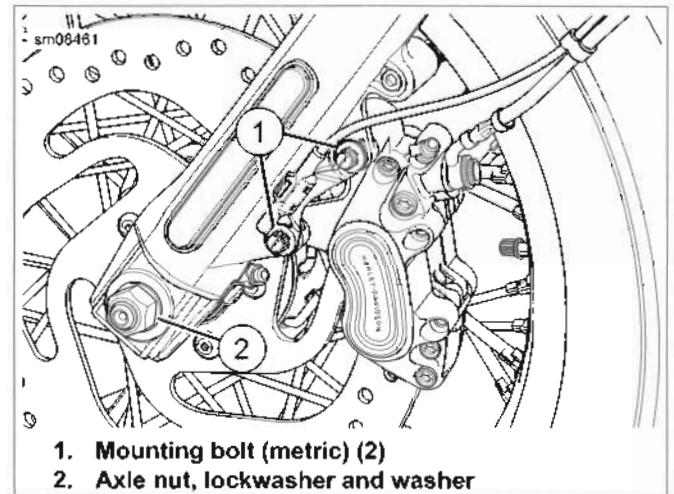

Figure 2-3. Front Caliper and Axle Mounting (Left Side)
3. See Figure 2-3. Remove mounting bolts (1). Move caliper away from wheel. Support caliper using a rubber bungee cord. Verify that caliper does not contact fender.
- See Figure 2-3. Install the washer and axle nut (2). Insert screwdriver or steel rod through hole in axle on right side of vehicle. While holding axle stationary, tighten axle nut to 70-75 ft-lbs (95.0-101.8 Nm).
- see Figure 2-3. Install the brake caliper and clip bracket, if equipped, to the fork leg using mounting bolts (1).